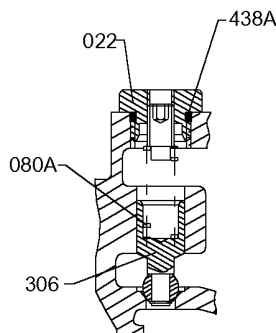

Fig.25 Non-adjustable relief valve
#### 3.7.3.1 Non-adjustable relief valve (Fig.25)
- Unscrew the cap (008) and remove the O-ring (438B)
- Unscrew the plug (043) and remove the O-ring (438A).
- Remove the check valve assembly (306) (Fig.25)